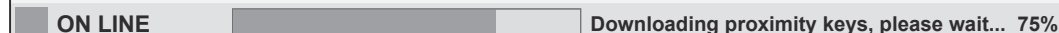

Fig. 130
- **DOWNLOADING (ON LINE):** see **Fig.130**, this indicates that the software is currently downloading any programmable settings, call button numbers/apartment numbers, dial to open numbers etc. from the GSM module.